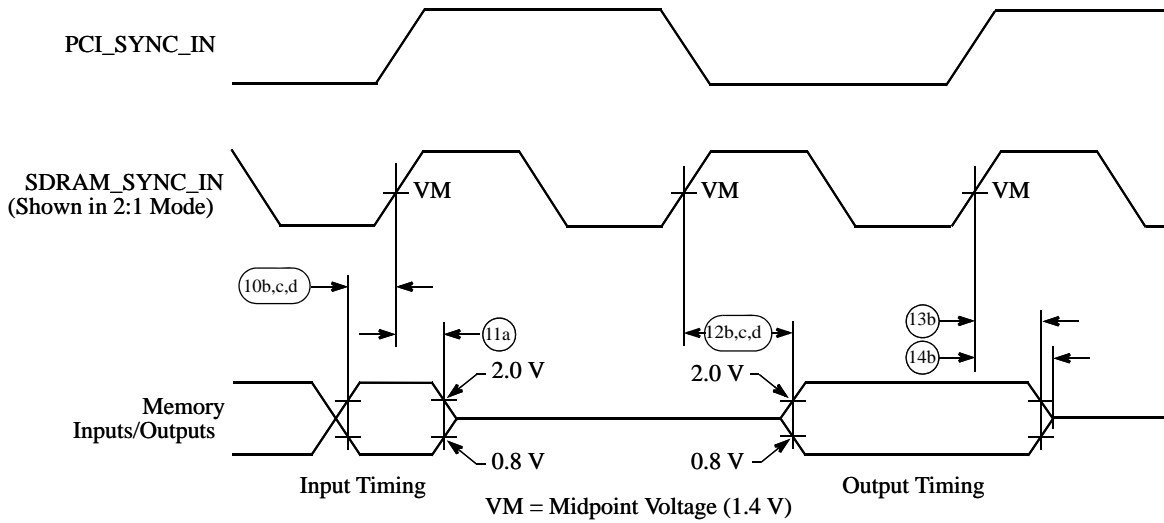
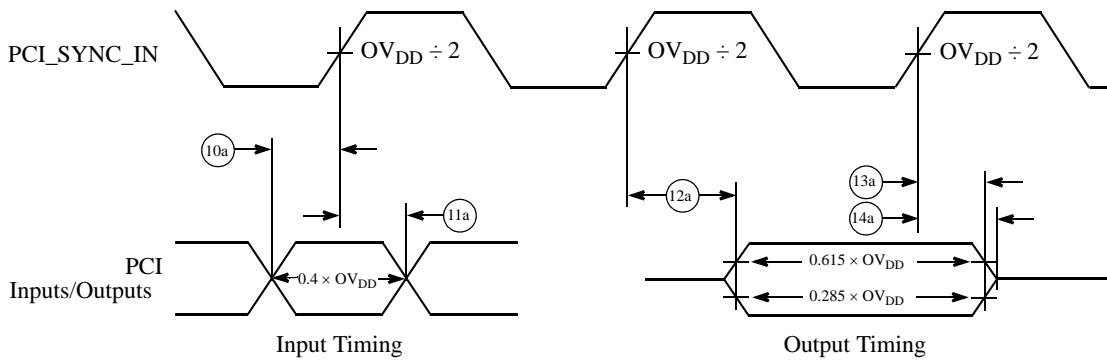

Figure 10. Input-Output Timing Diagram Referenced to SDRAM_SYNC_IN
Figure 11. Input-Output Timing Diagram Referenced to PCI_SYNC_IN
Table 9 provides the input AC timing specifications. See Figure 10 and Figure 11.
1. All memory, processor, and related interface input signal specifications are measured from the TTL level (0.8 or 2.0 V) of the signal in question to the $V_M = 1.4\text{ V}$ of the rising edge of the memory bus clock, SDRAM_SYNC_IN. SDRAM_SYNC_IN is the same as PCI_SYNC_IN in 1:1 mode, but is twice the frequency in 2:1 mode (processor/memory bus clock rising edges occur on every rising and falling edge of PCI_SYNC_IN). See Figure 10.
2. All PCI signals are measured from $OV_{DD}/2$ of the rising edge of PCI_SYNC_IN to $0.4 \times OV_{DD}$ of the signal in question for 3.3-V PCI signaling levels. See Figure 11.
Figure 10 shows input-output timing referenced to SDRAM_SYNC_IN and Figure 11 the input-output timing referenced to PCI_SYNC_IN.
Table 10 provides the processor bus AC timing specifications for the Tsi107. See Figure 10 and Figure 11.
1. All memory and related interface output signal specifications are specified from the $V_M = 1.4 \text{ V}$ of the rising edge of the memory bus clock, SDRAM_SYNC_IN to the TTL level (0.8 or 2.0 V) of the signal in question. SDRAM_SYNC_IN is the same as PCI_SYNC_IN in 1:1 mode, but is twice the frequency in 2:1 mode (processor/memory bus clock rising edges occur on every rising and falling edge of PCI_SYNC_IN). See Figure 10.
2. All PCI signals are measured from $OV_{DD}/2$ of the rising edge of PCI_SYNC_IN to $0.285 \cdot OV_{DD}$ or $0.615 \cdot OV_{DD}$ of the signal in question for 3.3-V PCI signaling levels. See Figure 11.